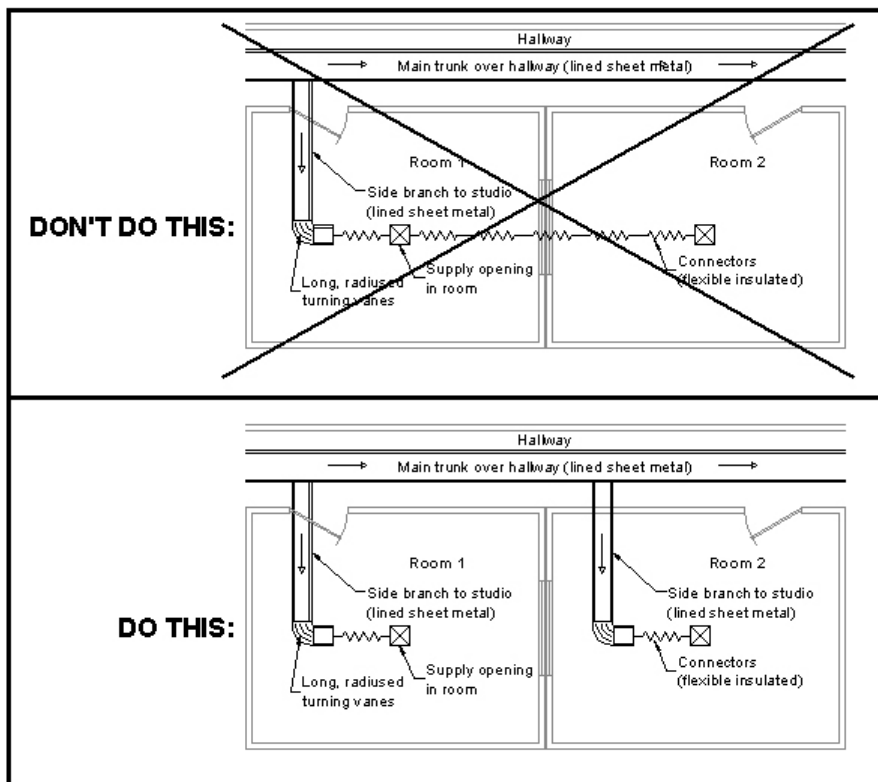

Figure 4.5: Method to properly interconnect HVAC systems between studio rooms (“daisy-chaining” is strongly discouraged)
- If installing a new HVAC system and ductwork, make sure that you do not have ducts “daisy-chaining” between adjacent studio rooms that are fed by the same main trunk. Instead, add an additional trunk line and feed each other room as shown in *Figure 4.5*.